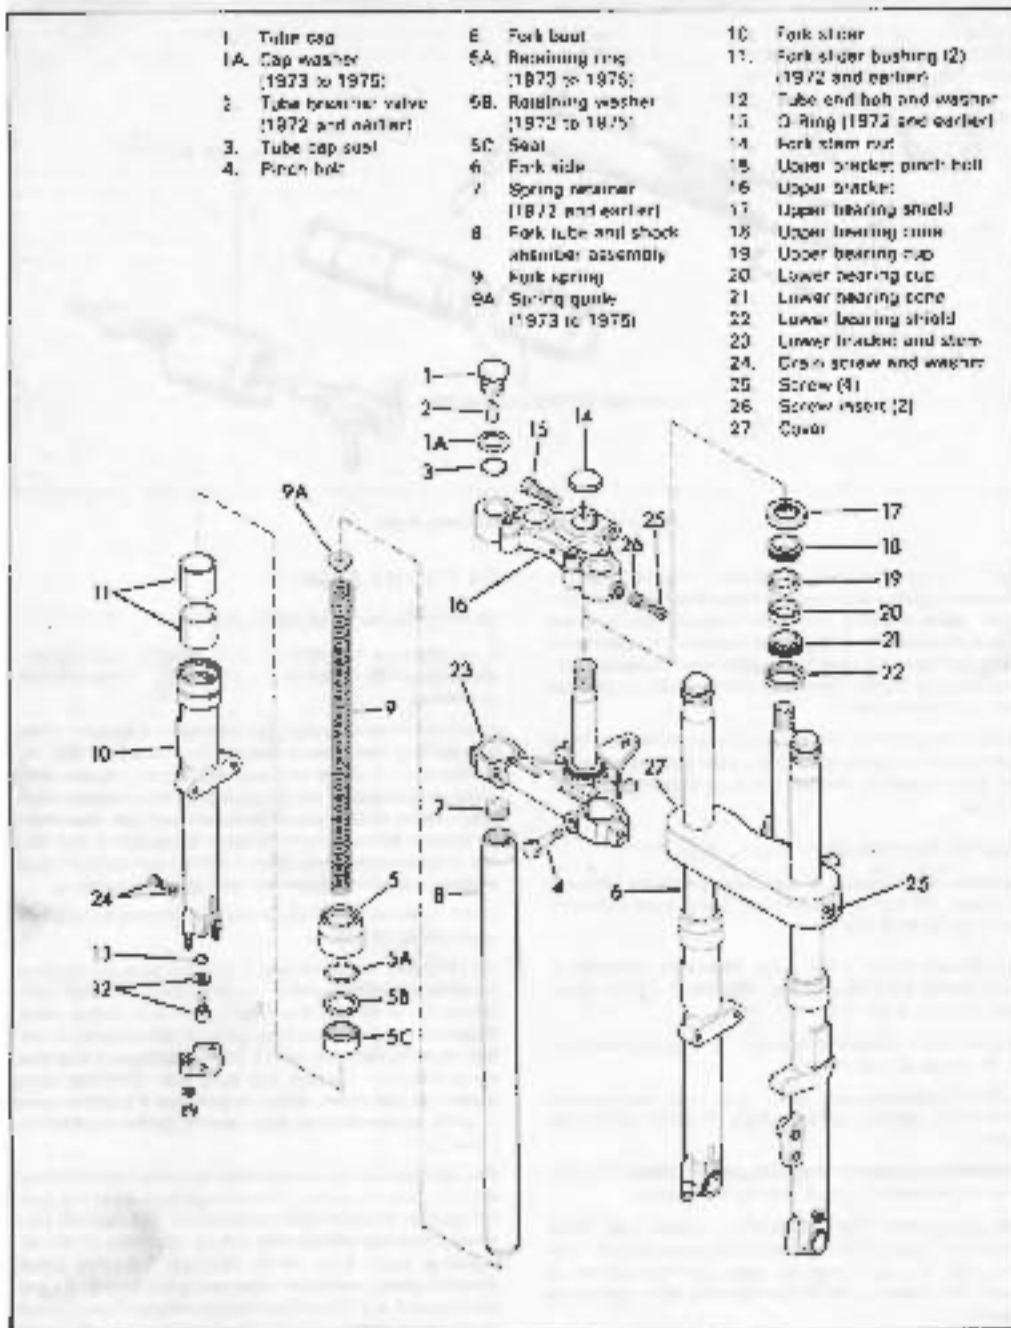

Figure 2-39. FX Front Fork - Exploded View
### INSPECTION PROCEDURE (Figure 2-39)
See Figure 2-39. Examine fork tube (8) for scoring and badly worn sliding surface. Inspect fork slider bushings (11) in fork slider (10) for wear and scoring. Insert tube (8) in fork slider (10), and work up and down. If tube has appreciable play in slider, replace slider bushings. See "Fork Slider Bushings."
#### REPLACING BREATHER VALVE - 1972 AND EARLIER (Figure 2-39)
#### REMOVING FORK SIDES (Figure 2-39)
#### REMOVING FORK STEM AND BRACKET ASSEMBLY FROM STEERING HEAD (Figure 2-39)
To replace bearing races (19 and 20) Figure 2-39), knock head cup from steering head using a suitable drift. Press new bearing race in new head cup and then press assembly into frame head.
#### DISASSEMBLING FORK SIDE - 1975 AND EARLIER (Figure 2-39)
#### ASSEMBLING FRONT FORK SIDES (Figures 2-39, 2-41)
#### INSTALLING STEM AND SHAKELI ASSEMBLY, FORK SIDES AND ADJUSTING STEERING HEAD BEARINGS (Figure 2-39)